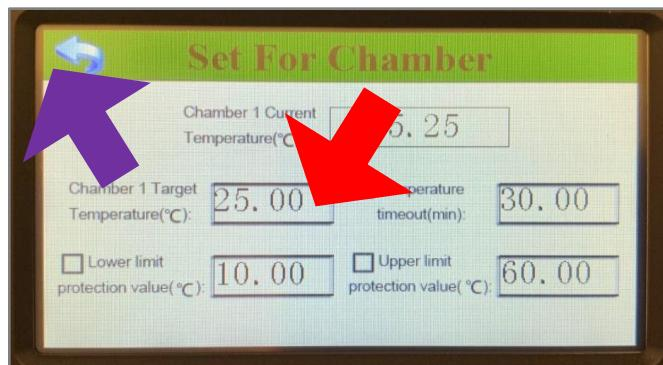

Figure 19-33 Setting the Target Temperature of Each Chamber
- 6) Select the blue return arrow in the upper left corner (indicated by the purple arrow in Figure 19-33) to return to the “Overview” Interface.